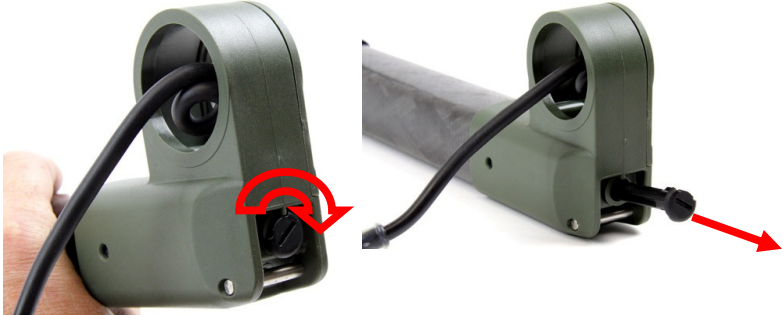

Figure 51: Removing Pin Coil Cable
- Remove the pin coil cable from the upper end of the upper shaft. Turn the pin clockwise then pull to remove. Figure 51.